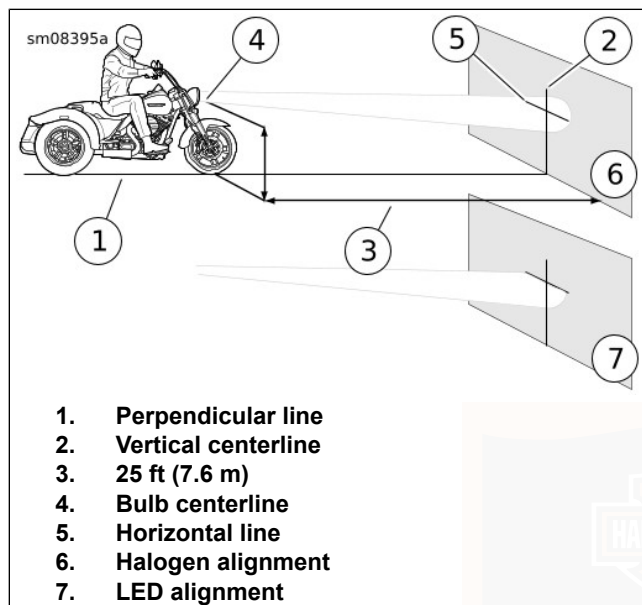

Figure 89. Headlamp Alignment: FLRT Single Headlamp
See Figure 89. Park the motorcycle on a line (1) perpendicular to the wall.
4. Loosen vertical adjustment screw (1).
5. See Figure 89. Tilt headlamp up or down until light beam is correct.